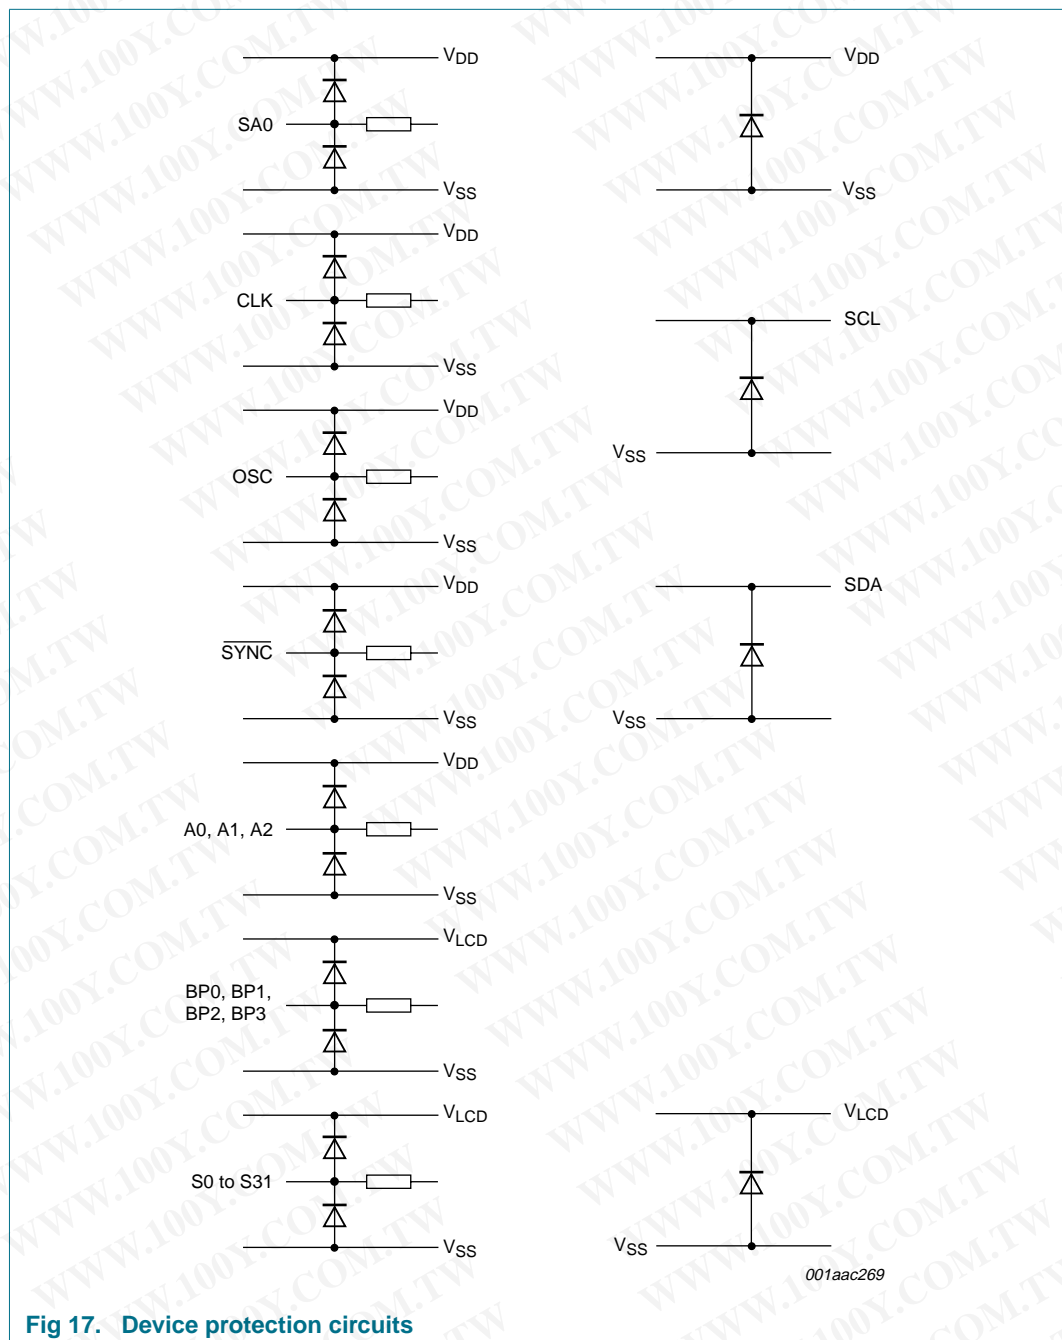

Fig 17. Device protection circuits
- [3] When tested, I²C pins SCL and SDA have no diode to V_{DD} and may be driven to the V_I limiting values given in Table 15 (see Figure 17 too).